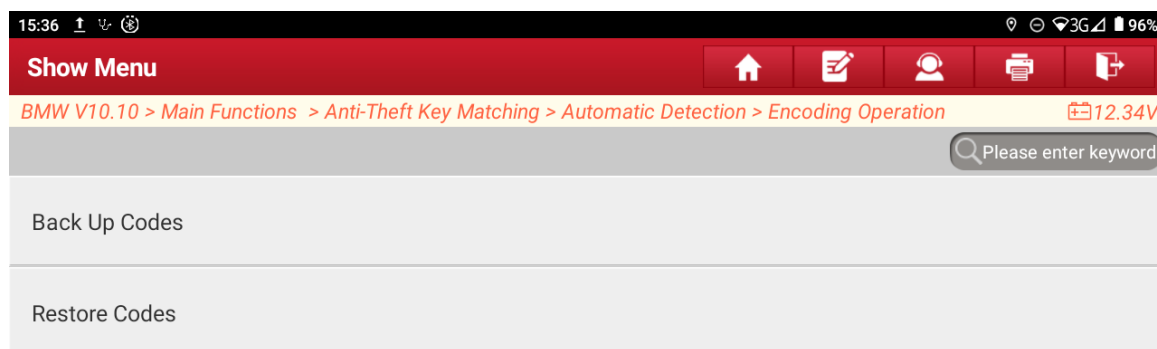

Figure 9
9. Select **【Back up Codes】** to back up the vehicle codes to prevent code loss, as shown in Figure 9.